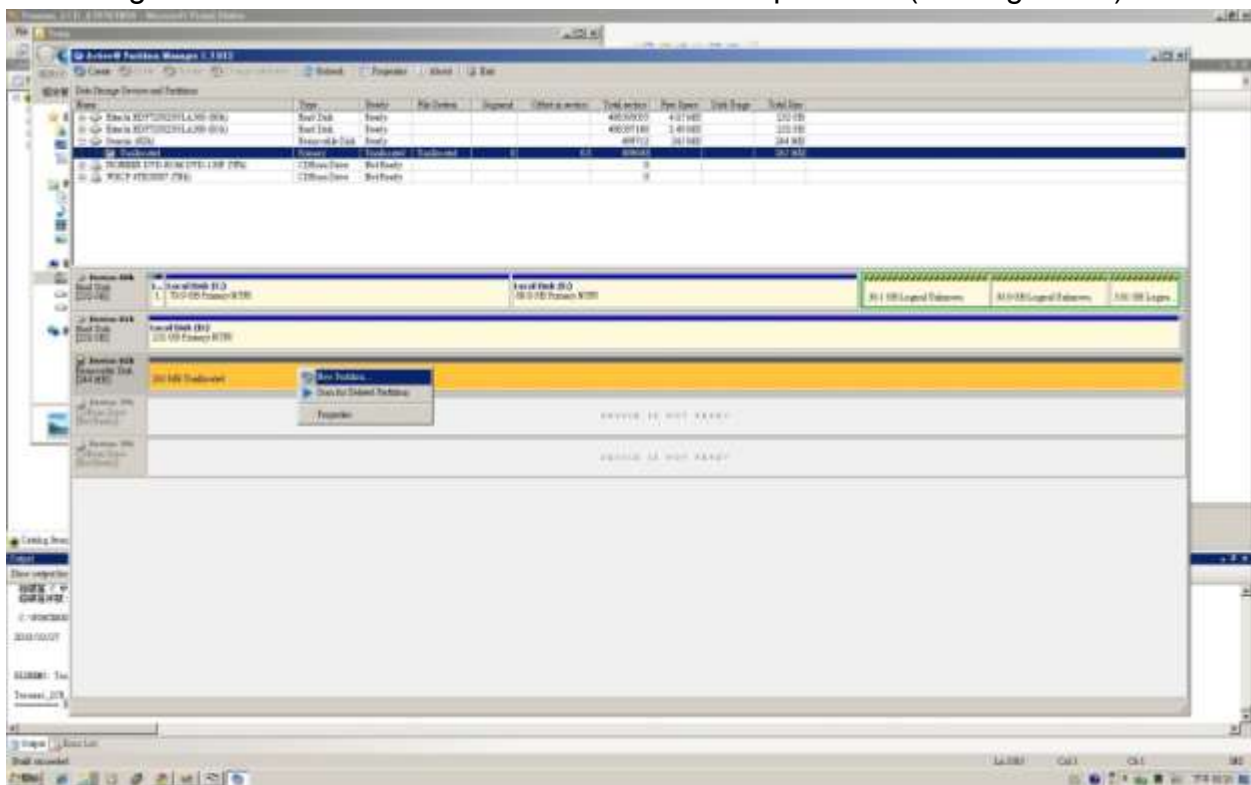

Figure 78
- Right click on removable disk and choose “new partition” (see Figure 78)